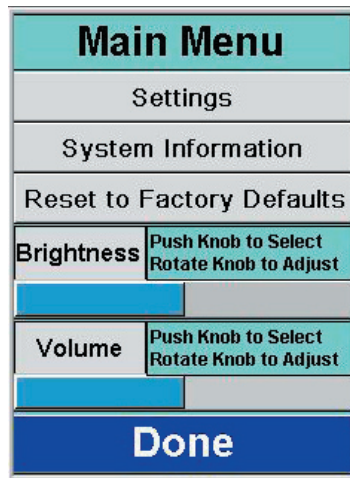

Figure 3-6 Main Menu
- 6.1 To access the Settings menu (system must be in Standby mode), turn the Menu knob until "Main Menu" is highlighted then push the Menu knob to select. The Main Menu is displayed as shown in Figure 3-6.